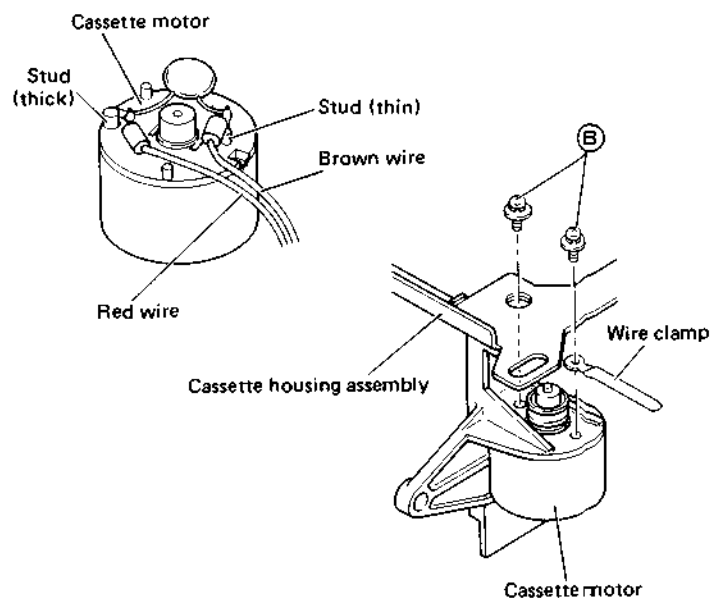

Fig. 4-5 Cassette motor replacement
2. Disengage the belt from the motor pulley, take out two screws (B) and remove the cassette motor. See Fig. 4-5.
3. Reinstall the cassette motor with the two screws (B), together with the wire clamp, then reengage the belt.